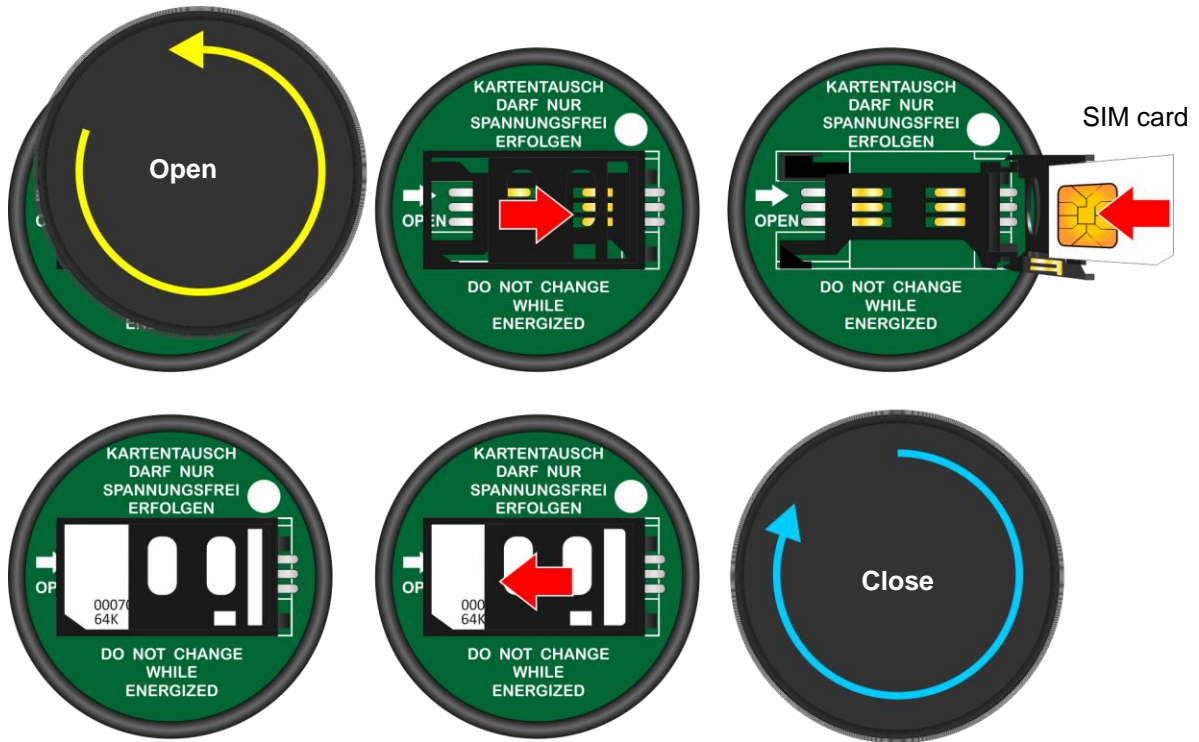

Fig. 4.5: Insert the SIM card by unscrewing the lid of the modem, sliding the card holder in the direction of the arrow and then flipping it open.
5. Unscrew the lid of the modem (see Fig. 4.5).
6. Release the card holder by sliding it in the direction of the arrow and then flip it open (see Fig. 4.5).